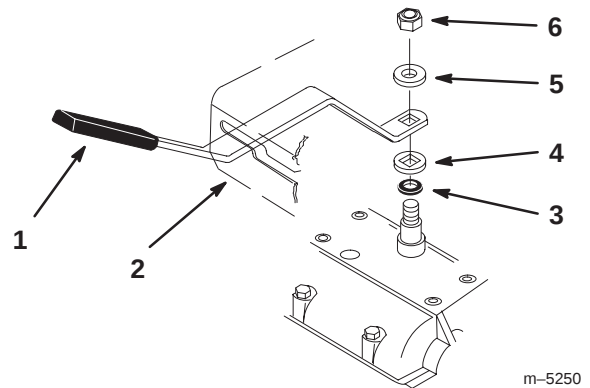

Figure 6
2. If clearance is not correct, remove lever and bend it slightly to adjust (Fig. 6).